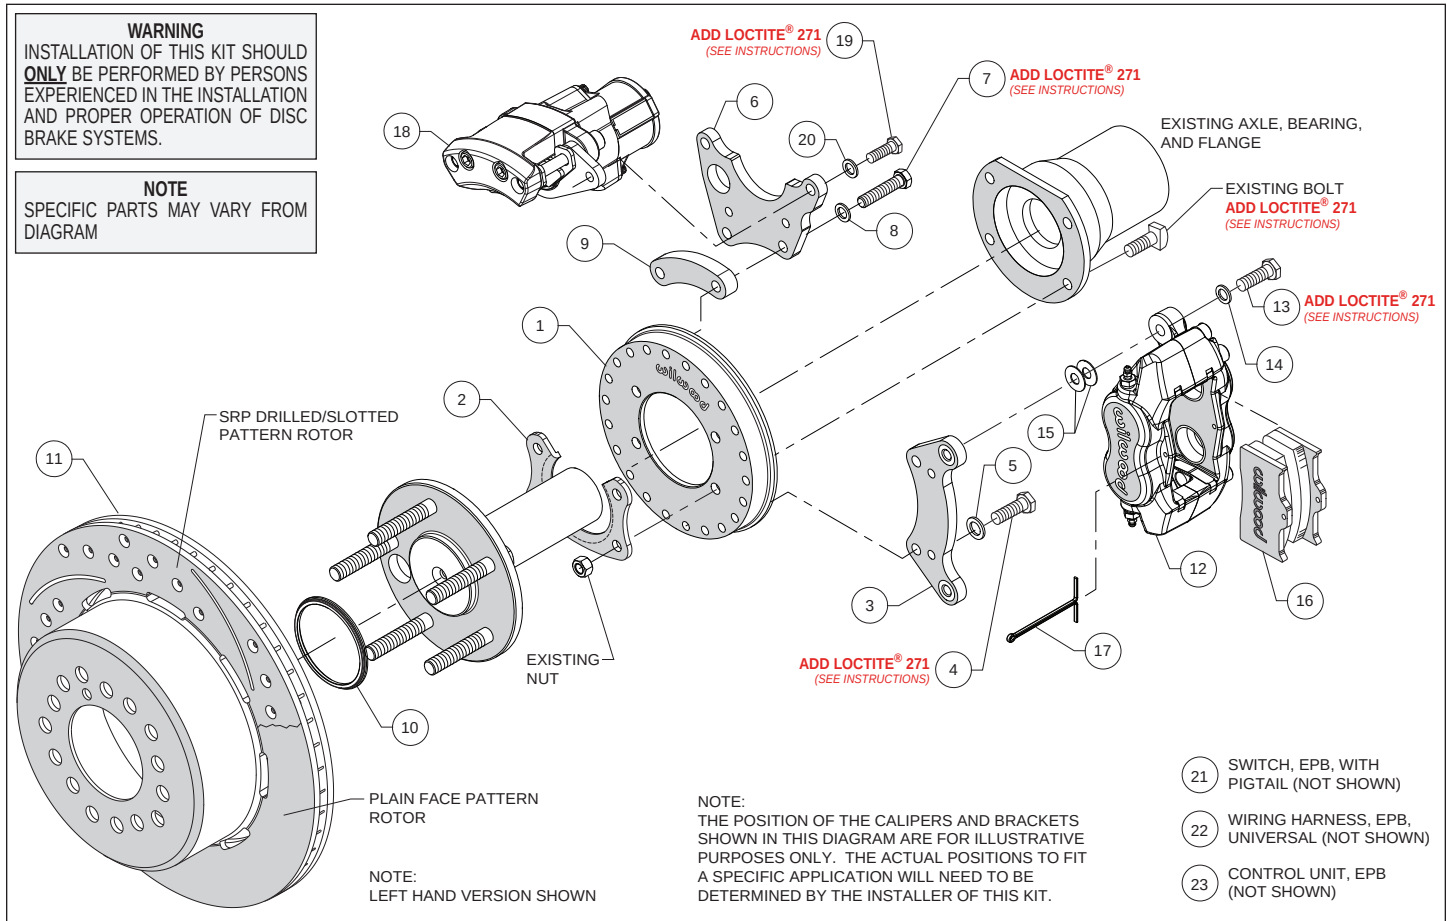
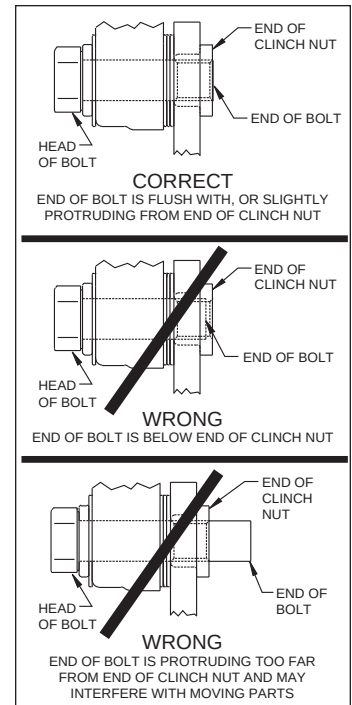

Figure 1. Typical Installation Configuration
Figure 5. Clinch Nut Engagement Diagram
(numbers in parenthesis refer to the parts list, and Figure 1 on the preceding pages):
CAUTION: All mounting bolts must fully engage clinch nuts. Be sure to check that all bolts are either flush or protruding through flanged side of clinch nut after shimming, Figure 5.
- Orient the backing plate (1) as shown in Figure 1 and Photo 1, and slide it onto the axle housing flange. Ensure the backing plate fits flush against the axle housing flange. Reinstall the axle into the axle housing.
- Install the bearing retainer (2) with the opening pointing upward and the lip facing inward (toward the bearing), as shown in Figures 1 and 4, and Photo 2. Secure retainer and backing plate to the axle housing flange using the Original Equipment Manufacturer (OEM) bolts and nuts, Figure 1 and Photo 3. Apply red *Loctite*® 271 to the OEM bolt threads and torque to OEM specifications.
- Start by determining the best location for the service caliper (12). This caliper is usually mounted in the 3:00 or 9:00 o'clock position, but may be rotated up or down approximately 45 degrees and still allow for proper bleeding, Photo 4. Orient the service caliper bracket (3) as shown in Figure 1 and Photo 5, and install to the backing plate (1) in the desired location using bolts (4) and washers (5). Temporarily tighten bolts. Next, mount the service caliper to the bracket using bolts (13) and washers (14). Temporarily tighten bolts. Check that the caliper (including inlet fitting and hose) has sufficient clearance to all surrounding components through the full suspension travel. Relocate the caliper/bracket on the backing plate as needed to ensure proper clearance is achieved.
- Determine the best location for the EPB caliper (18). **NOTE:** *The EPB caliper motor extends farther inboard than the service caliper and therefore needs additional consideration when determining a mounting location with sufficient clearance.* In the example application shown in Photo 6, the EPB caliper has sufficient inboard clearance to the leaf spring. However, if the EPB caliper were mounted closer to the 12:00 o'clock position, the inner body of the vehicle would hit the caliper during full compression of the suspension.
•Orient the EPB caliper bracket (6) as shown in Figure 1 and Photo 7, and install to the backing plate (1) in the desired location using bolts (7), washers (8), and spacer (9). Temporarily tighten bolts. **NOTE:** The EPB bracket is reversible. In one direction the bracket will position the EPB caliper closer to the service caliper, and vice versa if reversing the bracket. Next, mount the EPB caliper (18) to the bracket using bolts (19) and washers (20). Temporarily tighten bolts. **NOTE:** EPB calipers are Left and Right handed, however they can be used on either side of the vehicle to best suit your specific application. Check that the EPB caliper (including wiring harness connector) has sufficient clearance to all surrounding components through the full suspension travel. Relocate the EPB caliper/bracket on the backing plate as needed to ensure proper clearance is achieved.
•Once the caliper positions have been determined, remove both the service (12) and EPB (18) calipers, leaving both brackets in place on the backing plate. For both brackets, remove the bolts one at a time, apply red *Loctite*® 271 to the threads, and torque to 35 ft-lb.
•Slide the rotor registration adapter (10) onto the register on the axle flange with the smaller O.D. facing toward the rotor/hat (11), Photo 8. Align the correct hole pattern in the rotor/hat with the stud pattern on the axle flange and slide into place, Figure 1. **NOTE:** The rotor/hat must fit flush against the axle flange or excessive rotor run out may result. Install three lug nuts (finger tight) to keep the rotor/hat assembly in place while continuing with the installation. **NOTE:** Some OEM and after market axles come with stud sizes larger than 0.50" diameter. Verify stud size and have a qualified machine shop drill the bolt circle of the hat/rotor to the correct stud size, if necessary.
•**NOTE:** Please reference the caution statement at the beginning of the assembly instructions. Remount the service caliper (12) onto the caliper mounting bracket (3) using bolts (13) and washers (14), as shown in Figure 1. Initially place two .035" thick shims (15) on each bolt between the caliper and the bracket, Photo 9. Temporarily tighten the mounting bolts and view the rotor (11) through the top opening of the caliper. The rotor should be centered in the caliper, Photo 10. If not, adjust by adding or subtracting shims (15) between the bracket (3) and the caliper (12). Always use the same amount of shims on each of the two mounting bolts. **NOTE:** The end of each bolt must be flush with or slightly protruding from the head of the clinch nut, as shown in Figure 5. If necessary place spare shims (15) between washer (14) and caliper (12) mounting ear to achieve the proper clinch nut engagement. Once the caliper alignment and clinch nut engagement are correct, remove the bolts (13) one at a time, apply red *Loctite*® 271 to bolt threads, and torque to 40 ft-lb.
- Mount the EPB caliper (18) onto the caliper mounting bracket (6) using bolts (19) and washers (20), Figure 1. Apply red *Loctite*® 271 to bolt threads, and torque to 30 ft-lb.
- NOTE:** *The service caliper (12) in this brake kit utilizes a 1/8-27 NPT pipe thread inlet. OEM rubber brake hoses generally cannot be adapted to Wilwood calipers. The preferred method is to use steel adapter fittings at the caliper, either straight, 45 or 90 degree and enough steel braided line to allow for full suspension travel. **Carefully route hoses to prevent contact with moving suspension, brake or wheel components.** NOTE: Wilwood hose kits are designed for use in many different vehicle applications and it is the installer's responsibility to properly route and ensure adequate clearance and retention for brake hose components. Wilwood offers universal brake flex line hose kits, domestic (3/8-24 IF) chassis fittings, order:*